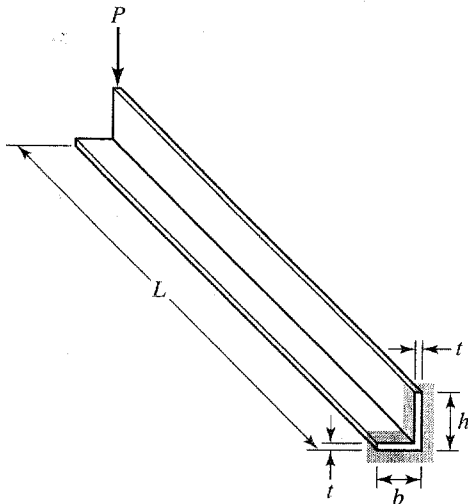

FIGURE P7.20
7.20. In Figure P7.20 let $b = 300$ mm, $h = 300$ mm, $t = 25.0$ mm, $L = 2.50$ m, and $P = 16.0$ kN. Calculate the maximum tensile and compressive stresses in the beam and determine the orientation of the neutral axis.